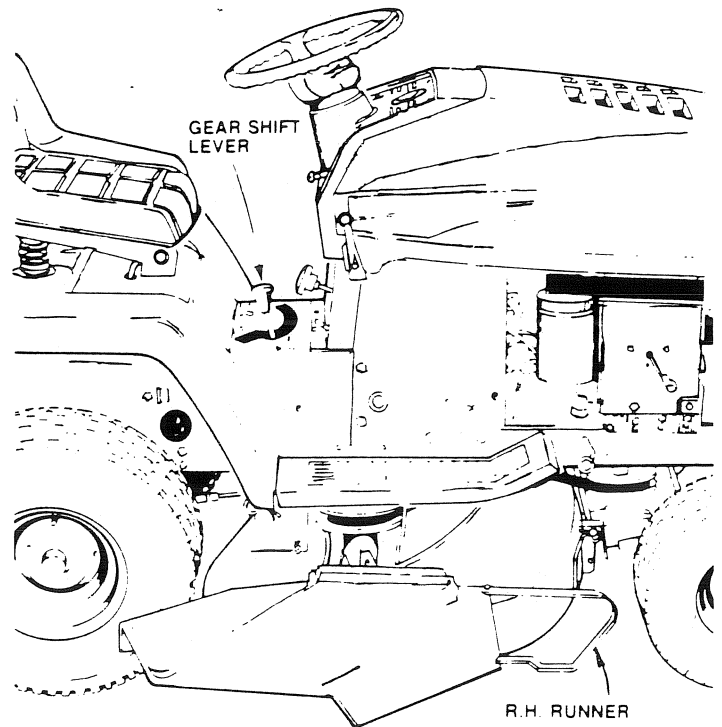

FIGURE 8
- f. Move throttle lever to half throttle and slowly move attachment clutch switch to engaged position, Fig. 8.
- b. Use the runner on the R.H. side as a guide; the blade cuts approximately 25,4 mm (one inch) outside the runner (Fig. 8).